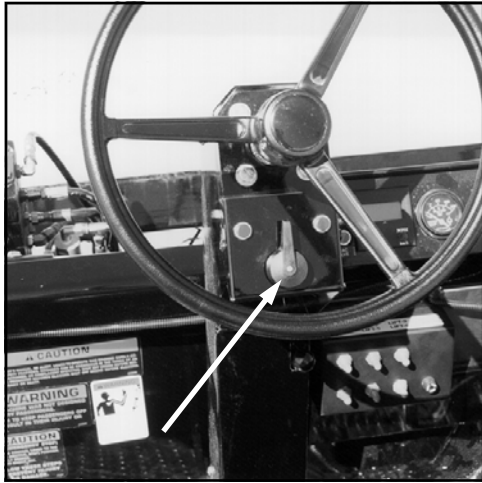
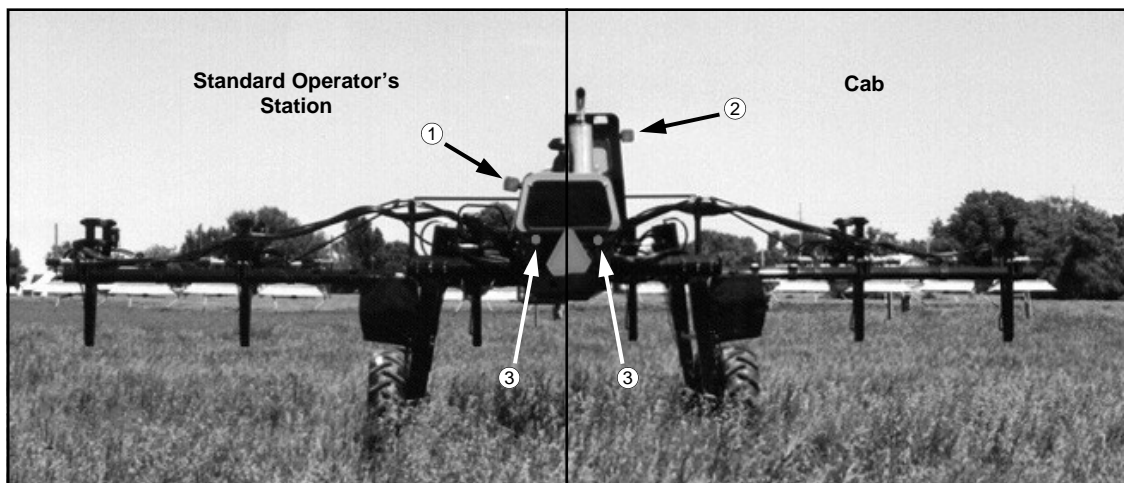

FIG 5.61
FIG 5.63
To activate the front (fig. 5.63, item 1 or 2) and rear turning signals (fig. 5.63, item 3) move the turn signal lever (fig. 5.61) right during a right-hand turn and left during a left-hand turn. Steering column-mounted turn signal indicators will correspondingly flash when either side of the turn signals is activated. The turn signal lever is not a self-centering switch; you must return it to the “OFF” position by hand after completing your turn.
To activate the flashing hazard/warning lights (fig. 5.63, item 1 or 2) flip the “FLASHER” switch to the “ON” position (fig. 5.62). Activate the hazard/warning lights anytime traveling on a public road, day or night, unless prohibited by law.
Activating any of the work lights (see page 70) will also turn on the “RED” running lights on the rear of the machine (fig. 5.63, item 3).